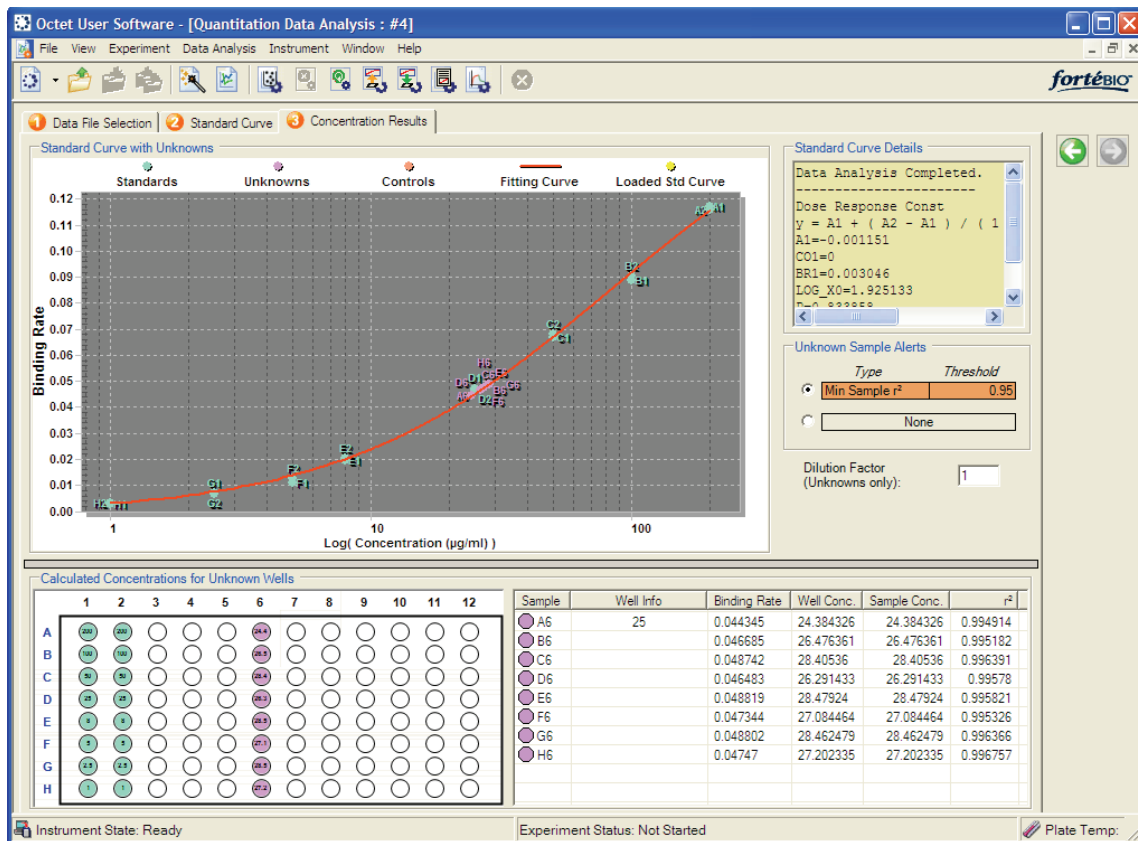

Figure 3.16 Quantitation Data Analysis window, Concentration Results tab
- To compute the calculated concentrations for the unknowns and controls, click the Concentration Results tab in the Quantitation Data Analysis window (Figure 3.16). Alternatively click the  arrow to advance to the tab.